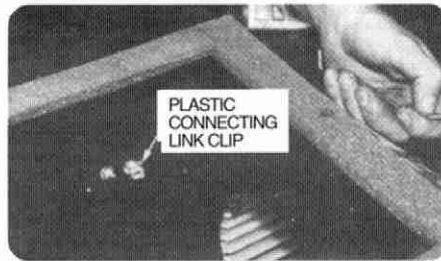

Figure 16
22. Install plastic connecting link clip onto vacuum actuator lever (Figure 16).